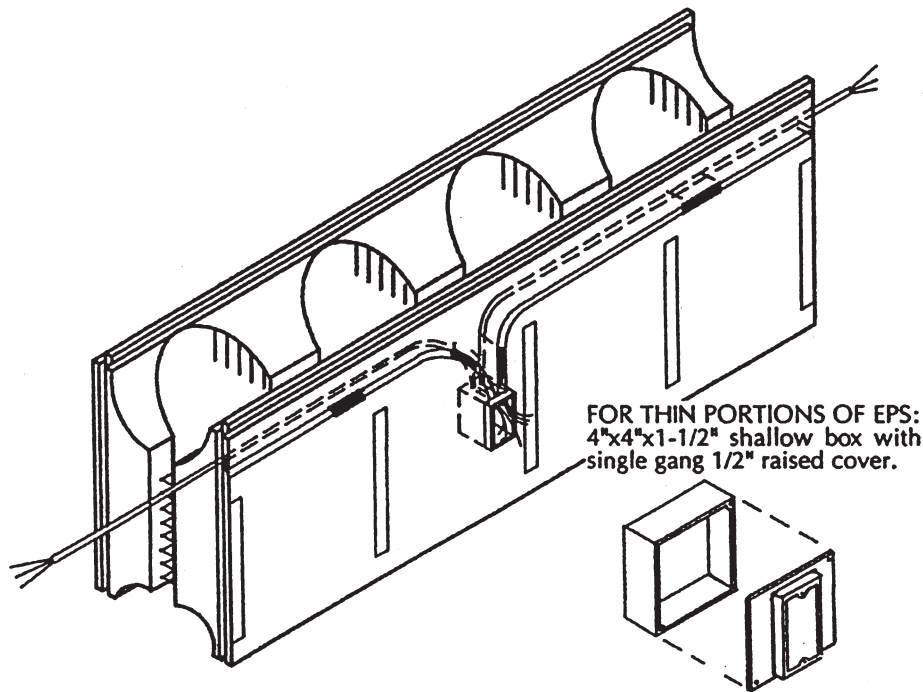

Fig. 21-23 Installing electrical wiring and boxes in insulated concrete forms. (American Polysteel Forms.)
9. Electrical wiring and boxes can be installed by gouging out a groove with a router or hot knife. Figure 21-23 illustrates electrical wiring tips.